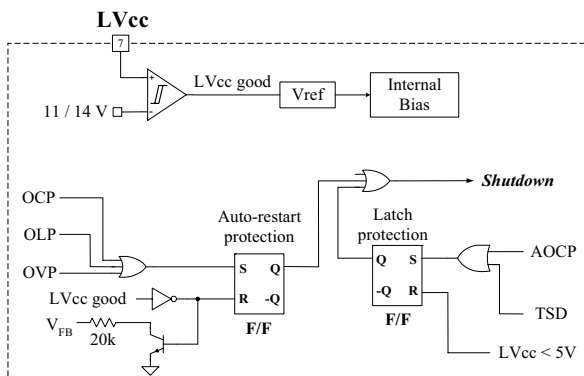

Figure 11. Protection blocks
3. Protection Circuits: The FSF-Series has several self-protective functions such as Over Load Protection (OLP), Over Current Protection (OCP), Abnormal Over Current Protection (AOCP), Over Voltage Protection (OVP) and Thermal Shutdown (TSD). According to the selected control mode (PWM/PFM), different protections are applied as summarized in table I. Over Load Protection (OLP), Over Current Protection (OCP) and Over Voltage Protection (OVP) are auto-restart mode protection while Abnormal Over Current Protection (AOCP) and Thermal Shutdown (TSD) are latch mode protection as shown in Figure 11.